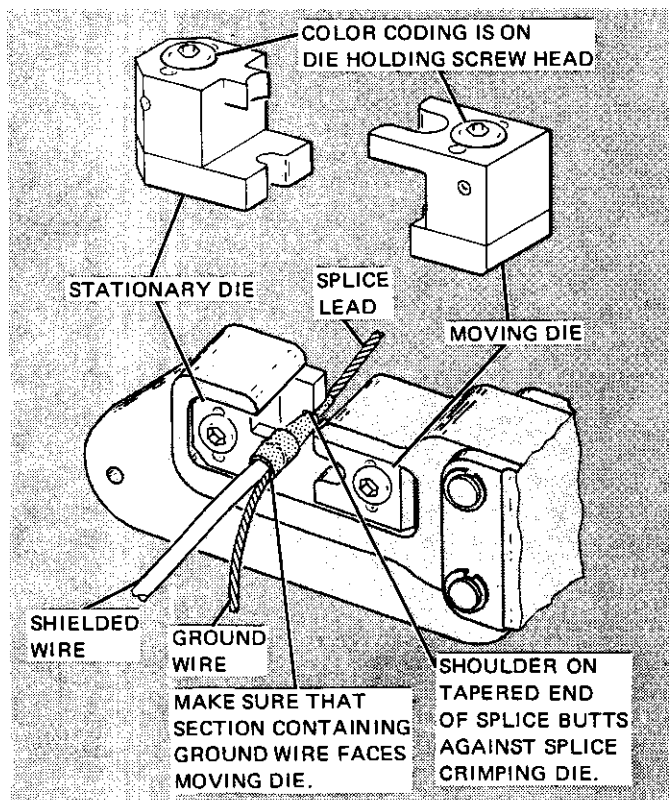

Figure 3
- (c) Place splice, with stripped wires inserted, in crimping dies as shown in Figure 3. Small shoulder on tapered end of splice butts against splice crimping die.
NOTE: Make certain that section of splice containing ground wire faces moving die. See Figure 3.
- (b) Place splice, with stripped wires inserted, in crimping dies as shown in Figure 3. Small shoulder on tapered end of splice butts against splice crimping die.